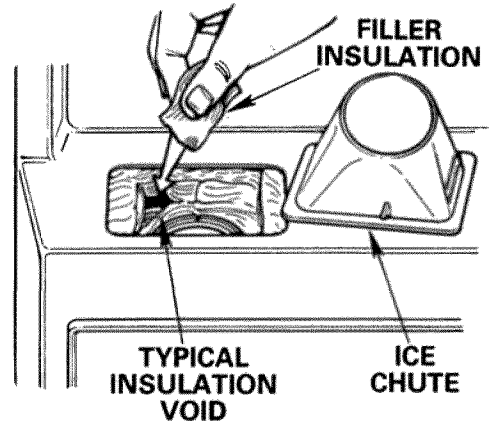

Figure 1 - Filling voids in the Insulation
1. First, remove the plastic ice chute from the inner door and inspect the insulation in the recess cavity. If there are visible voids, then using the small piece of insulation from the kit, cut small strips approximately 1" X 2" and fill the voids. (See Figure 1) Do not compress the insulation as this tends to make the insulation lose its insulating properties.